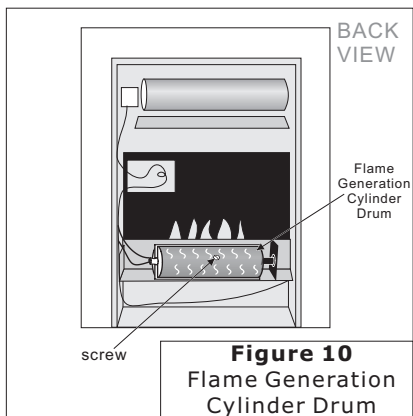

Figure 10
- 2/ Locate the flame generation cylindrical drum. It is constructed of two removable halves. They are two (2) matte black sheet metal pieces with holes in them, either of which can be removed from the unit. (Figure 10)
- 3/ Remove the screw as shown in Figure 10 that is used to secure the flame generation cylinder drum.